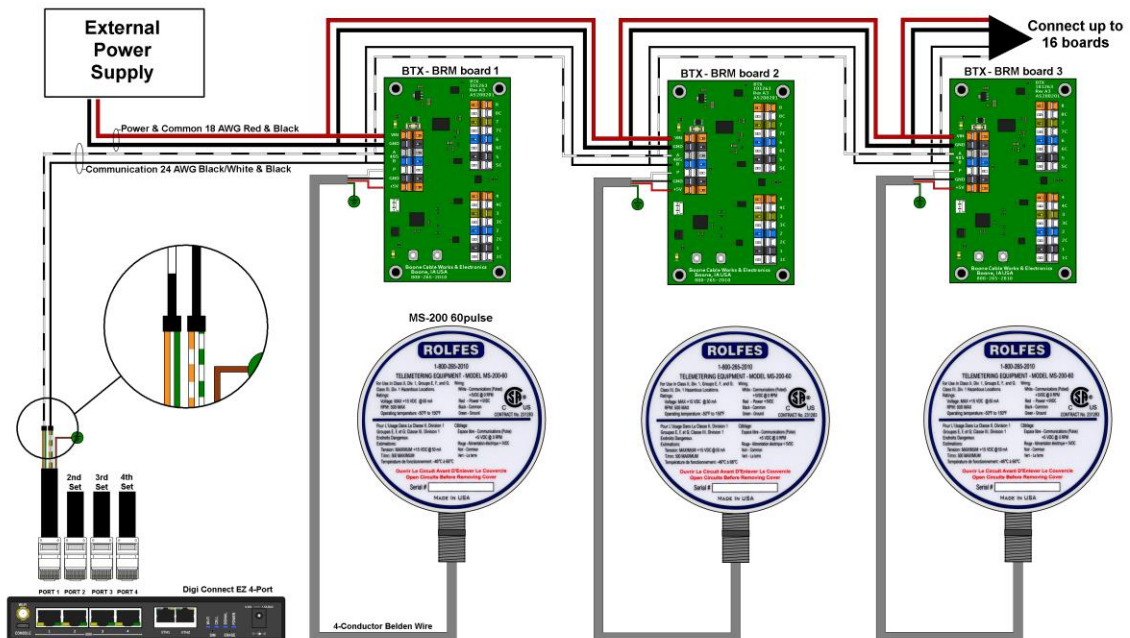

Figure 6. BT8/BTX & Motion (MS-200 or Whirligig) connected to a Wired Gateway
Control Wire runs from the Gateway to the first BT8/BTX modules and daisy-chain between each subsequent Remote BT8/BTX Module. (See figure 6).
**4.4.2. Terminations:** They are done where the cables are connected to the circuit boards. BTX boards use Cage-Clamp type terminal blocks. (See Figure 9). For the gauges of wire used in our cables, we have found that this spring-pressure provides a more reliable connection regardless of temperature variations, vibration, and corrosive environments. They also reduce overall wiring and maintenance time. (See figures 6, 7 & 8).